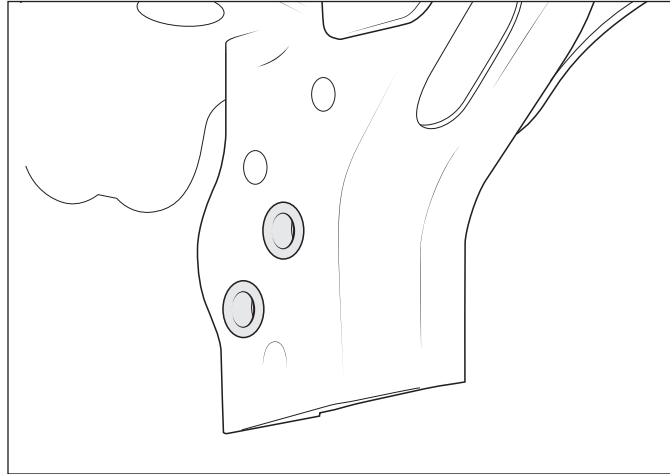

Figure 10
1. Install M10 rivnuts using provided tool into the two hex shaped holes on the inboard side of each compatibility beam (fig. 10). To use rivnut tool, run provided bolt through the washer and coupler, then thread on rivnut until snug. Flanged end of rivnut should sit against the coupler. Place rivnut into desired hole, hold coupler stationary with a wrench, and tighten the bolt to 31 ft-lb. Remove the bolt and coupler to make sure the rivnut has full compressed. NOTE: Depending on factory bumper configuration, some vehicles may already have rivnuts in these locations.